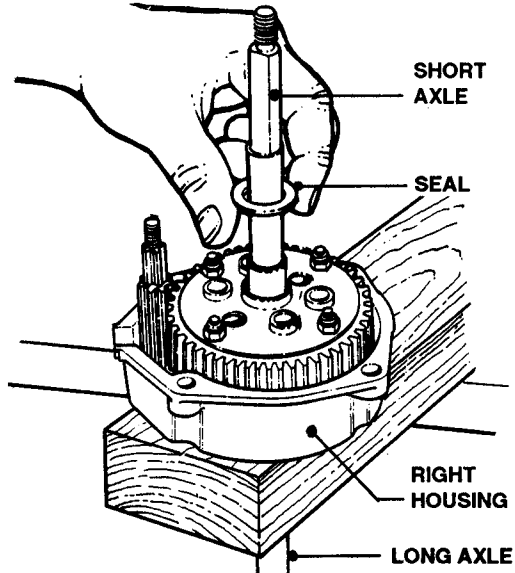

FIGURE 5.18
9. Grease Axles and guide Long Axle through Seal in Right Housing with Seal Driver. See Figure 5.18.